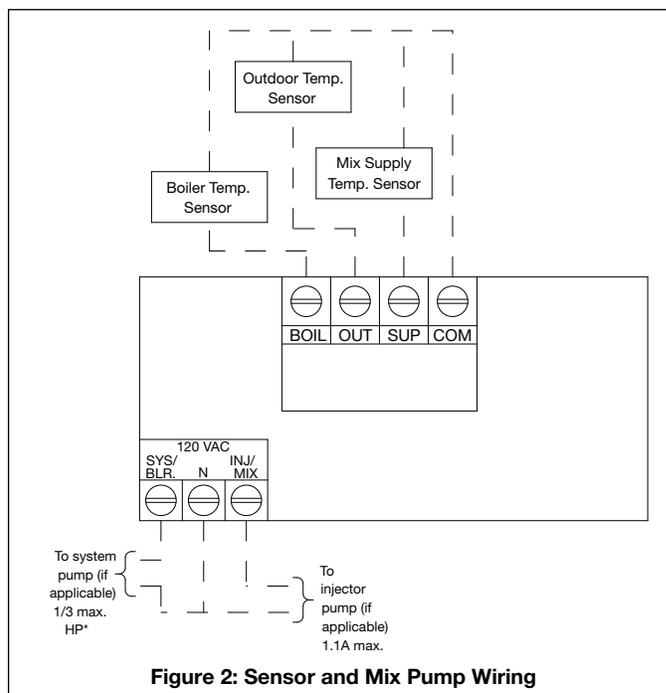

Figure 2: Sensor and Mix Pump Wiring
- Connect 18 AWG or similar wire to the two terminals provided in the enclosure and run the wires from the sensor to the control as shown in Figure 2. Do not run the wires parallel to telephone or power cables. If the sensor wires are located in an area with strong sources of electromagnetic interference (EMI), shielded cable or twisted pair should be used or the wires can be run in a grounded metal conduit. If using shielded cable, the shield wire should be connected to the Com Sen terminal on the control and not to earth ground.
- Sensor wiring is per Figure 2.